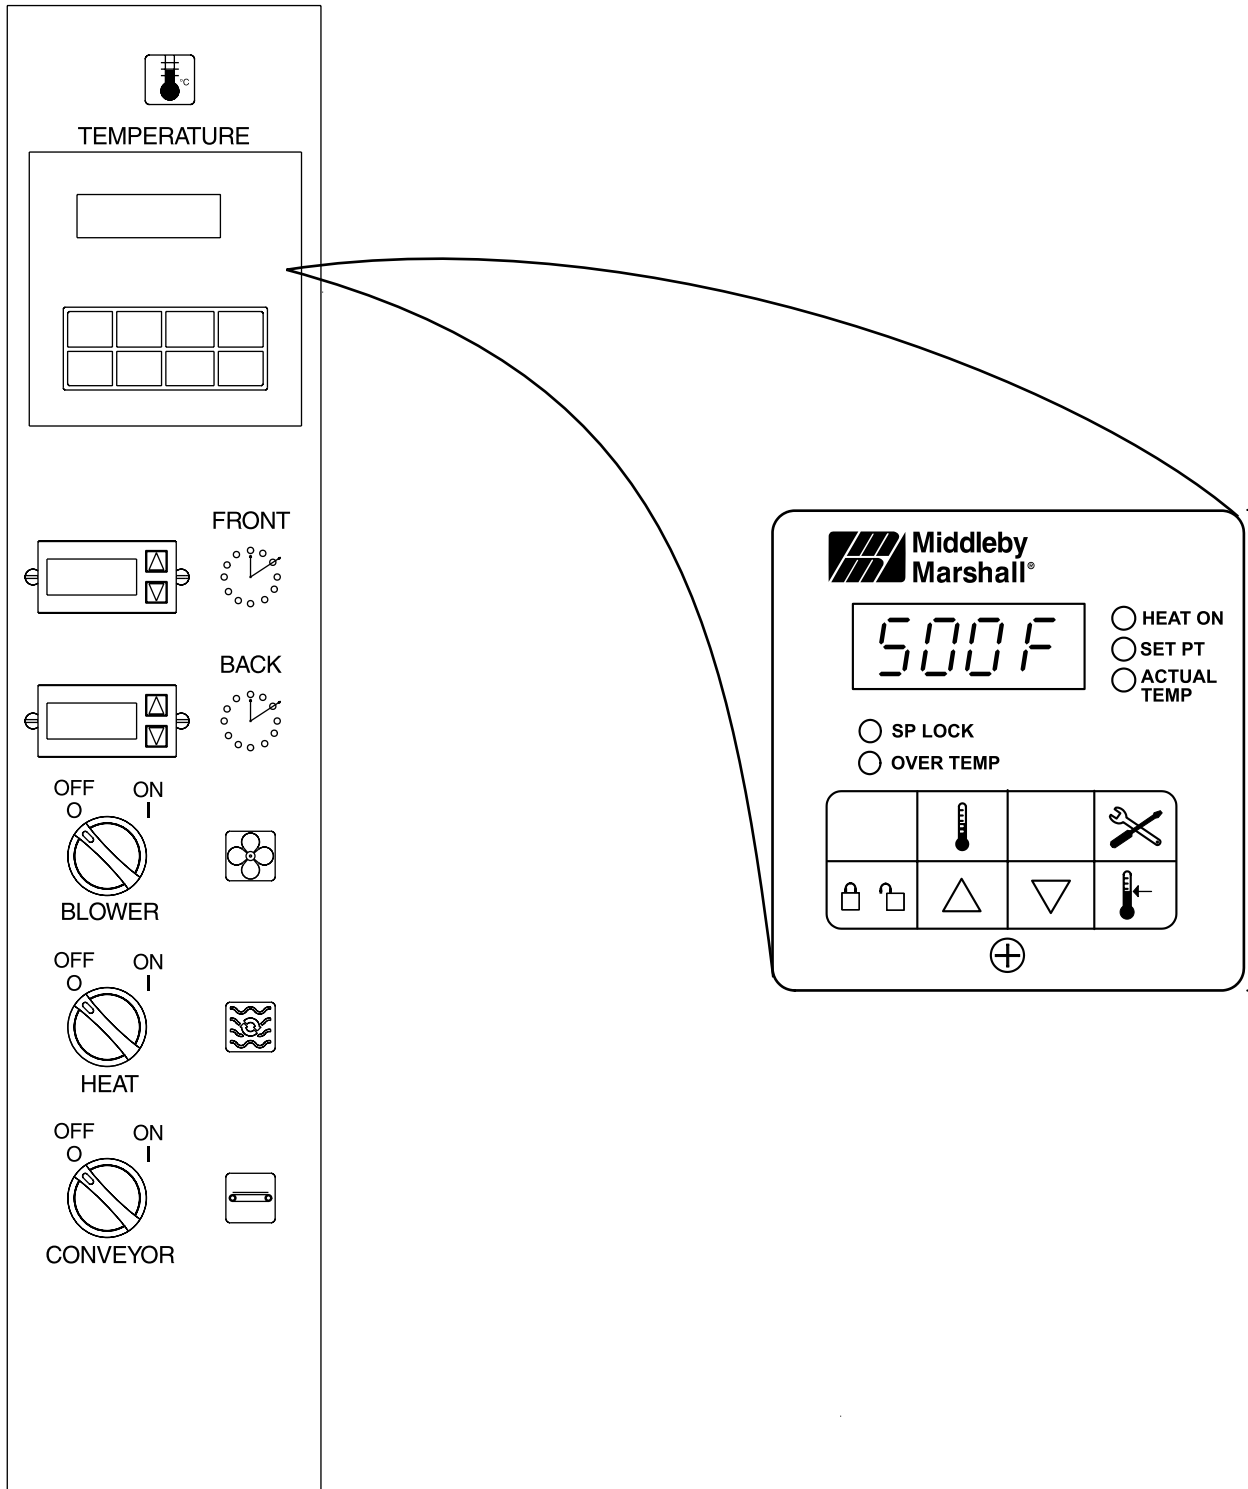

Figure 3-6. Control Panel
1. Turn the BLOWER switch (Figure 3-6) to the "ON" or "I" position. This starts the main blower fan and the cooling fan. The blower circulates air through the air fingers and must stay on during the cooking or baking process.
2. Check to see if the cooling fan (see Figure 1-8) is operating when the blower switch (see Figure 3-6) is turned "ON" or "I". The cooling fans cool the control components and burner blower motor. The cooling fan, located at the rear of the electrical control cabinet blows air into and through the cabinet. Air is exhausted through the front of the cabinet and also out the front of the oven. Refer to Daily Maintenance Section for fan intake checking procedure.
3. Turn the CONVEYOR switch (Figure 3-6) to the "ON" or "I" position. This starts the conveyor belt moving through the oven. Set the conveyor speed for the desired baking time. Refer to the following Procedures E, F and G.
5. Turn the HEAT switch (Figure 3-6) to the "ON" or "I" position. This completes a circuit to supply electric power to the electric heating system.